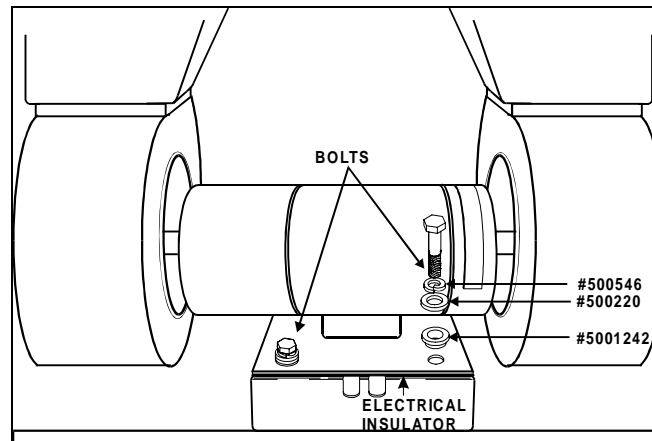
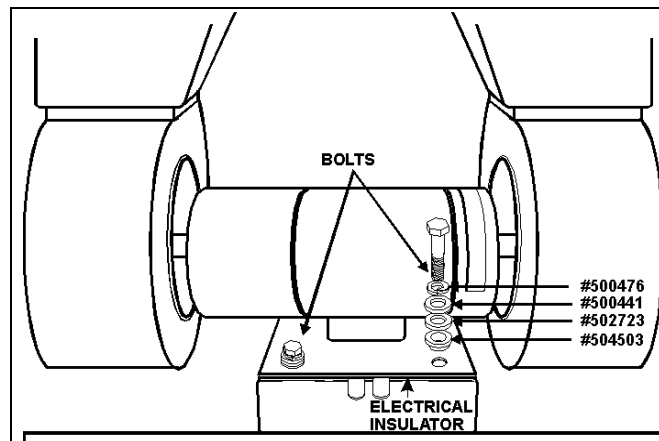

FIGURE 5: INSTALLATION WITH 3/8" (9.5mm) BOLTS
FIGURE 6: INSTALLATION WITH 5/16" (8mm) BOLTS 22113
22. Affix the electrical insulator (Prevost #452896) to the base of the motor (Fig. 5).
23. For the 3/8" (9.5mm) bolts, enlarge the holes of the motor base in order to install the washers. Reinstall the bolts to secure the evaporator motor with the washers (Fig. 5). For the 5/16" (8mm) bolts, reinstall them to secure the evaporator motor with the washers (Fig. 6).